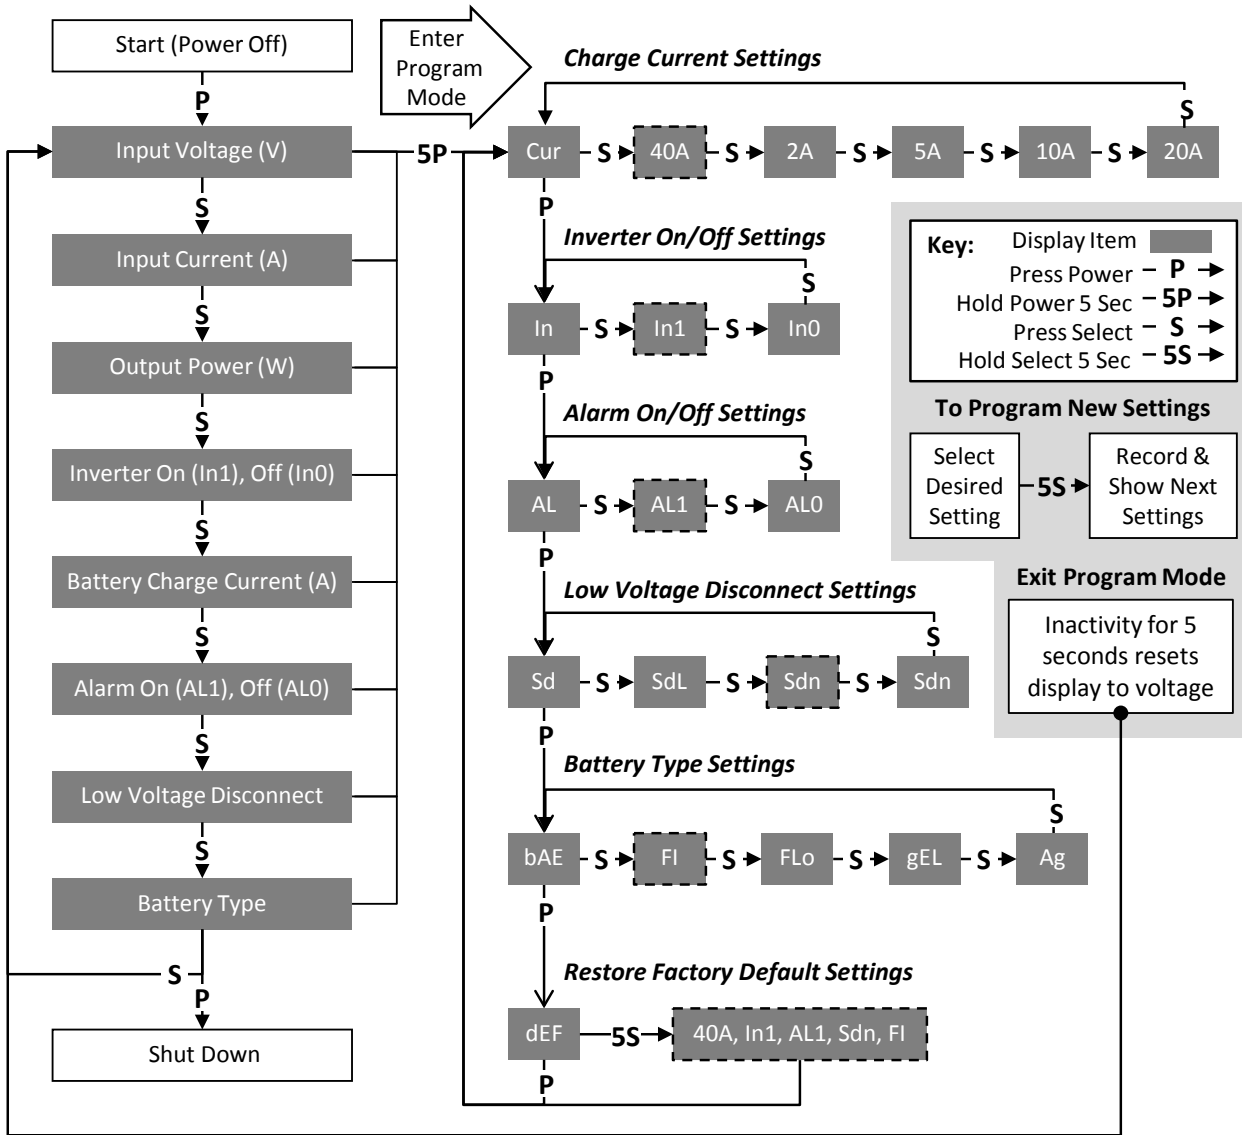

Figure 7. Setting flow chart
- Set to factory defaults (see Figure 7: Setting flow chart)